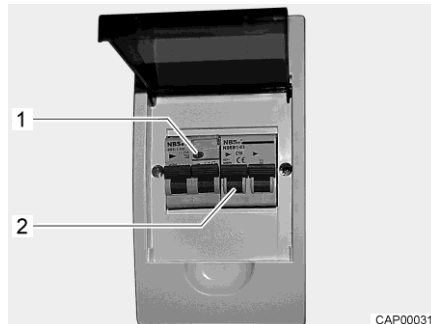

Fig. 77 230 V fuse box with safety cut-out and FI-switch
A fault current protection switch (FI-switch) in the fuse box protects the complete vehicle from fault current (0.03 A). A downstream safety cut-out (10 A) (Fig. 77,2) secures the 230 V power supply.
- When the vehicle is connected to the 230 V power supply, press the test button (Fig. 77,1). The fault current protection switch must trip.